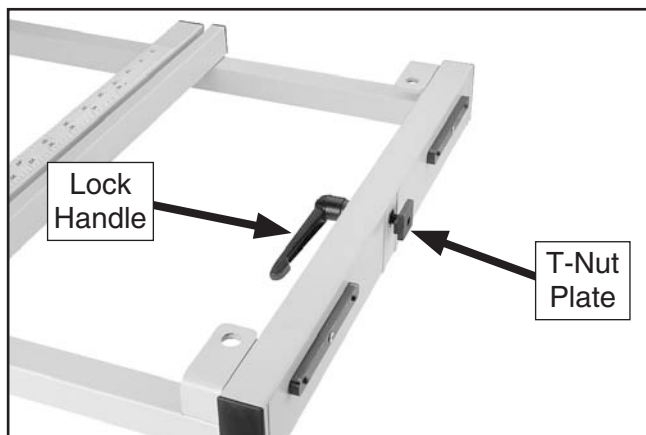

Figure 45. Crosscut lock handle installed.
50. Insert the M12-1.75 x 55 lock handle with a 12mm flat washer through the middle hole of the crosscut table, as shown in **Figure 45**, then loosely thread it into the T-nut plate.